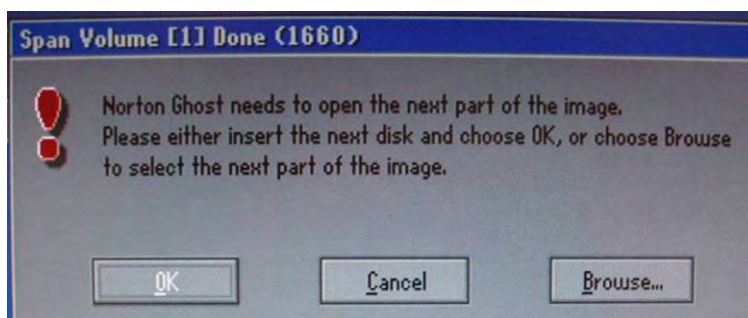

Figure 1-111. Span Volume
4. When a "Span Volume" popup window is displayed (Figure 1-111), remove CD #1 from the CD/DVD drive, and replace it with CD #2 for the appropriate PARS Phase media (Refer to Table 1-3, on page 65).